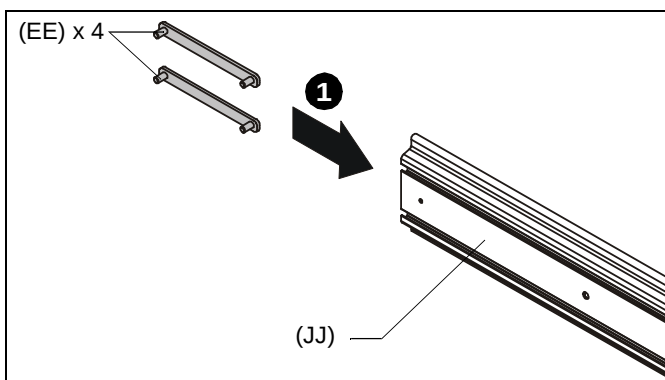

Figure 5
1. Slide four T-slot studs (EE - two in top mounting rail slot and two in bottom) into end of mounting rail (JJ). (See Figure 5)